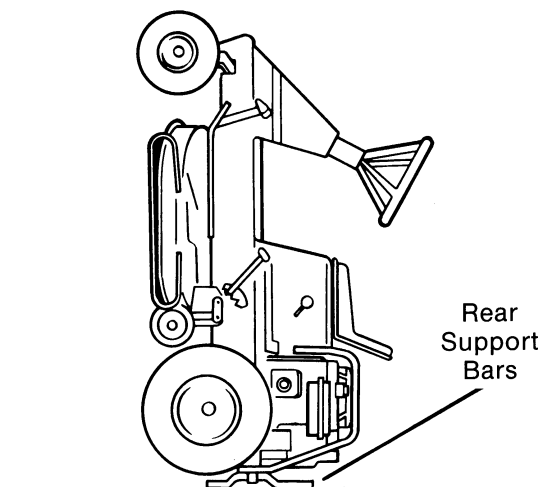

FIG. 6
- G. Raise front of rider up and stand on rear support bars. (Fig. 6)
- D. Raise front of rider up and stand on rear support bars. (Fig. 6)